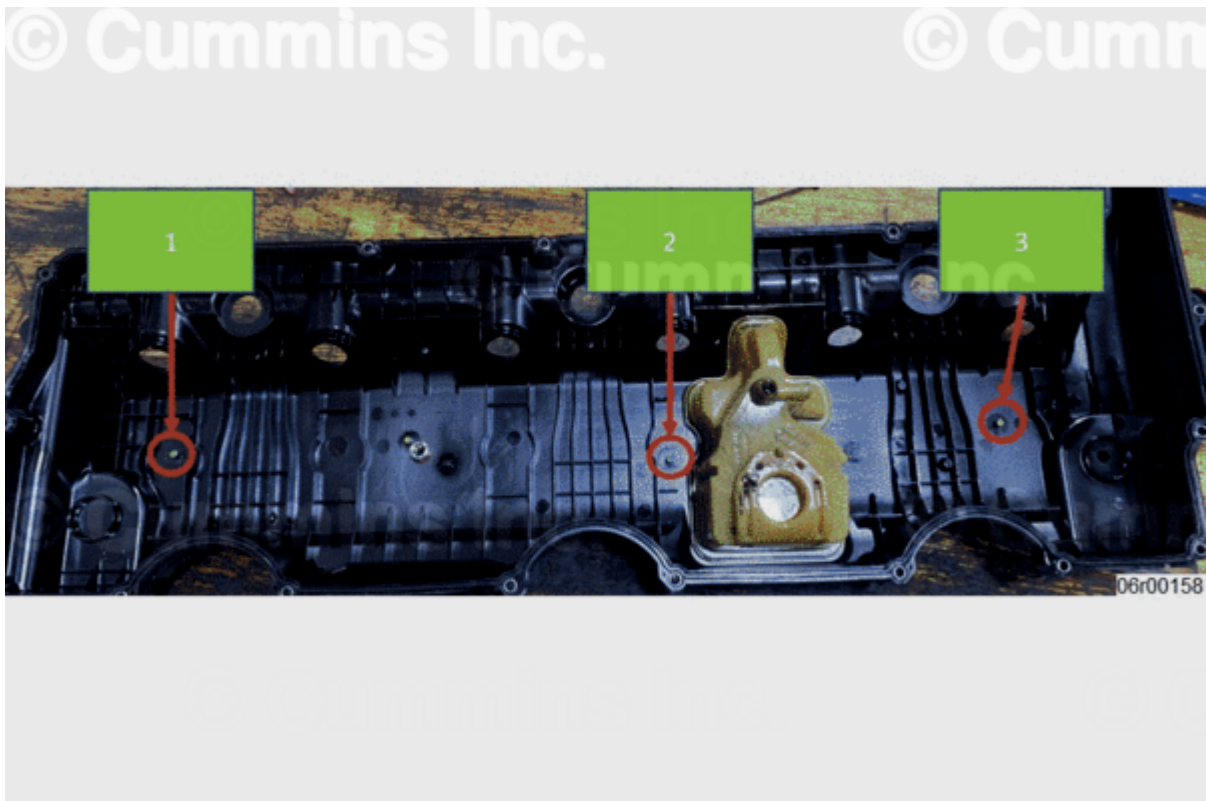

Figure 1, Interference Locations 1, 2, and 3
- Inside the rocker lever cover there is a potential for “nubs” made of excess flash from the injection molding process that can interfere with the injectors or injector wiring harness. This interference can lead to injector fault codes. See Figure 1 below for the location of the nubs.